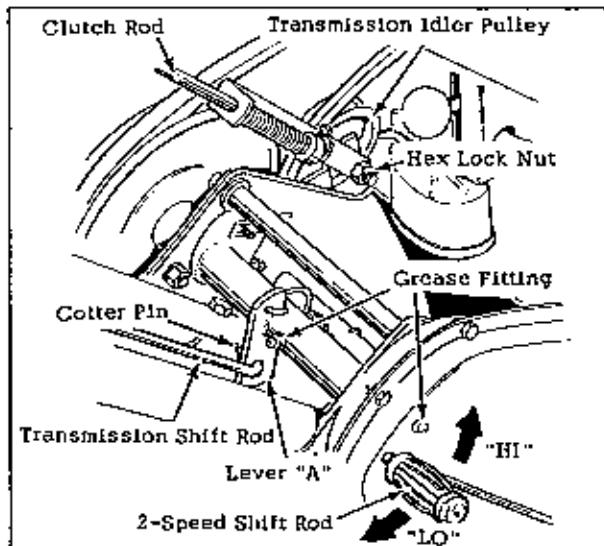

Fig. 3
- Connect the lower end of the shiftrod to lever "A" shown in Figure 3. Secure with a cotter pin.
- Connect the lower end of the clutch rod to the idler pulley using hex lock nut as shown in Figure 3. The lock nut should be tight enough to remove side play but loose enough to allow the bracket to pivot freely.
The 26" Sno Away has two speed ranges operated by the shift rod shown in Figure 3.